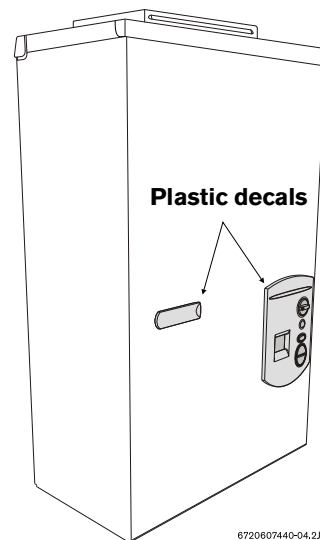

Fig. 6 Remove front cover
- Plastic decal shields for covering front cover screws and control panel, installer should affix these decals to the front of the unit after installation is complete. See Fig. 6
- ▶ Loosen the two Philips head screws located on front panel (beneath plastic decal shields if they are already attached, see Fig. 6).